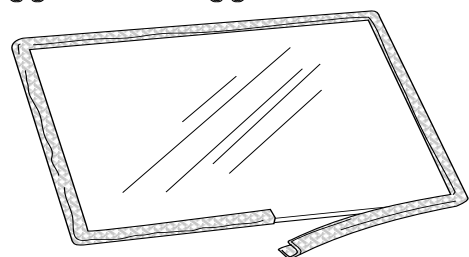

Figure 17.2.
1. Wrap the new gasketing material evenly around the edge of the glass, peeling back the protective strip to expose the adhesive as you go. See fig. 17.2. Press the adhesive side down onto the glass surface. Do not stretch the gasket.